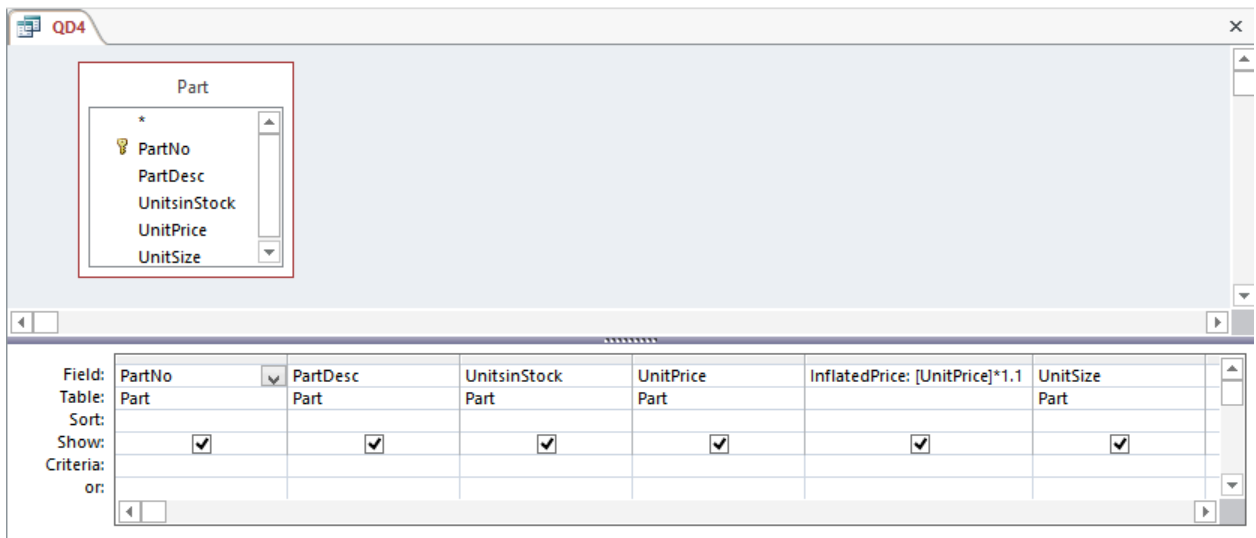

Figure 21: Completed “QD4”
When you are finished, click **OK**. Your *UnitPrice* field in design view should now appear as Figure 21. If you scroll in the cell, you can see the entire expression that you typed.
2. Open the Query Design Window: Next, open “QD5” in design view. It should appear on your screen the same as “QD4” (refer back to Figure 21).